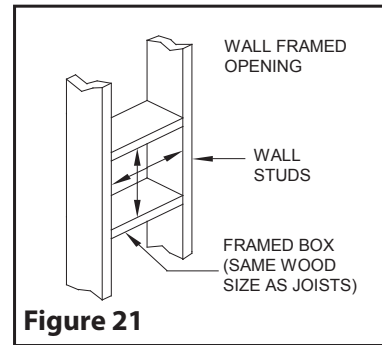

Figure 21
**NOTE:** The cavity surrounding the radiation shield must be filled with insulation (see Figure 21).